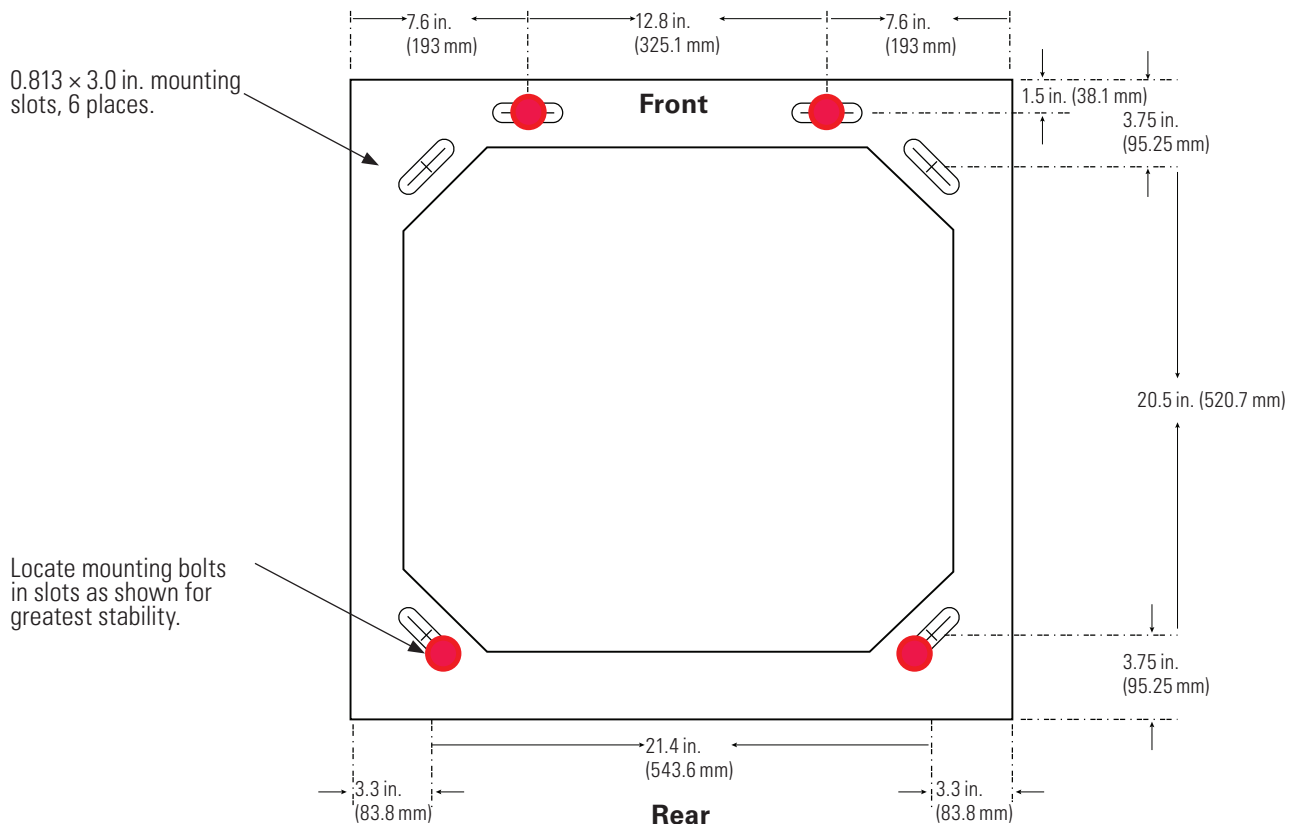

Figure 28: Base dimensions and mounting holes
Figure 28 shows the dimensions and bolt locations of a single bay. An anchoring kit is provided with hardware for the slots as well as the four additional bolt holes required for seismic compliance.
3. Refer to Figure 28 and mark the anchor hole positions. This figure also shows the preferred location for the anchor holes within the slots.